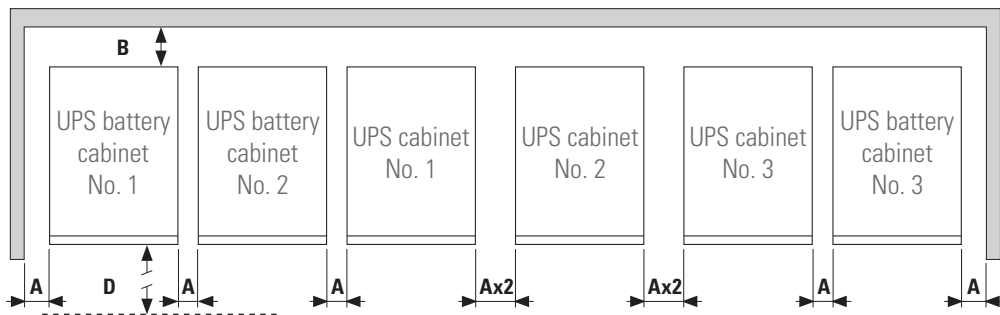

Fig. 7. Minimum peripheral distances for parallel system ventilation.
- Fig. 7 shows an example of three devices in parallel with their respective battery enclosure. For systems with two units in parallel and/or more battery modules, proceed accordingly depending on each case. Likewise, disregard in the illustration battery modules when the system does not have them. The number assigned to each device in Fig. 7 is only for numerical purposes within the illustration.